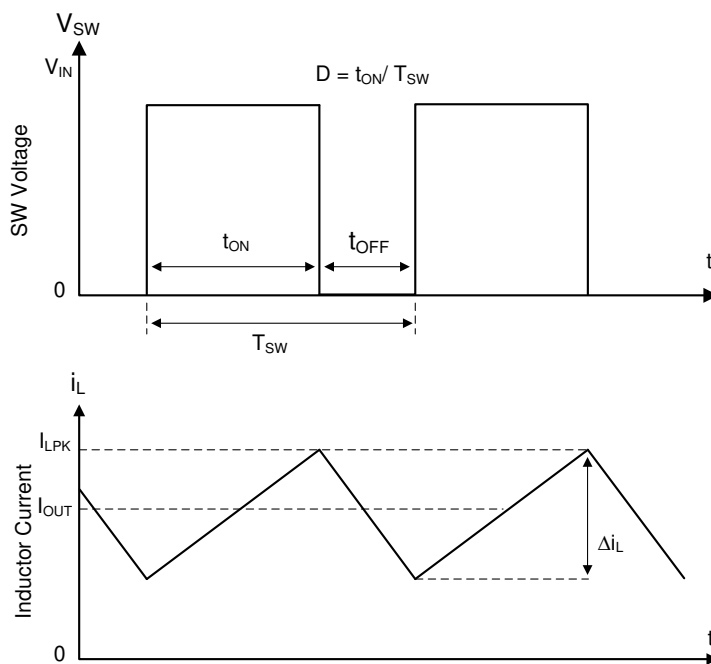

図 8-1. SW Node and Inductor Current Waveforms in Continuous Conduction Mode (CCM)
The following operating description of the LMR50410 refers to セクション 8.2 and to the waveforms in 図 8-1. The LMR50410 is a step-down synchronous buck converter with integrated high-side (HS) and low-side (LS) switches (synchronous rectifier). The LMR50410 supplies a regulated output voltage by turning on the high-side and low-side NMOS switches with controlled duty cycle. During high-side switch ON time, the SW pin voltage swings up to approximately V_{IN} , and the inductor current, i_L , increases with linear slope $(V_{IN} - V_{OUT}) / L$. When the high-side switch is turned off by the control logic, the low-side switch is turned on after an anti-shoot-through dead time. Inductor current discharges through the low-side switch with a slope of $-V_{OUT} / L$. The control parameter of a buck converter is defined as Duty Cycle $D = t_{ON} / T_{SW}$, where t_{ON} is the high-side switch ON time and T_{SW} is the switching period. The converter control loop maintains a constant output voltage by adjusting the duty cycle D . In an ideal buck converter, where losses are ignored, D is proportional to the output voltage and inversely proportional to the input voltage: $D = V_{OUT} / V_{IN}$.